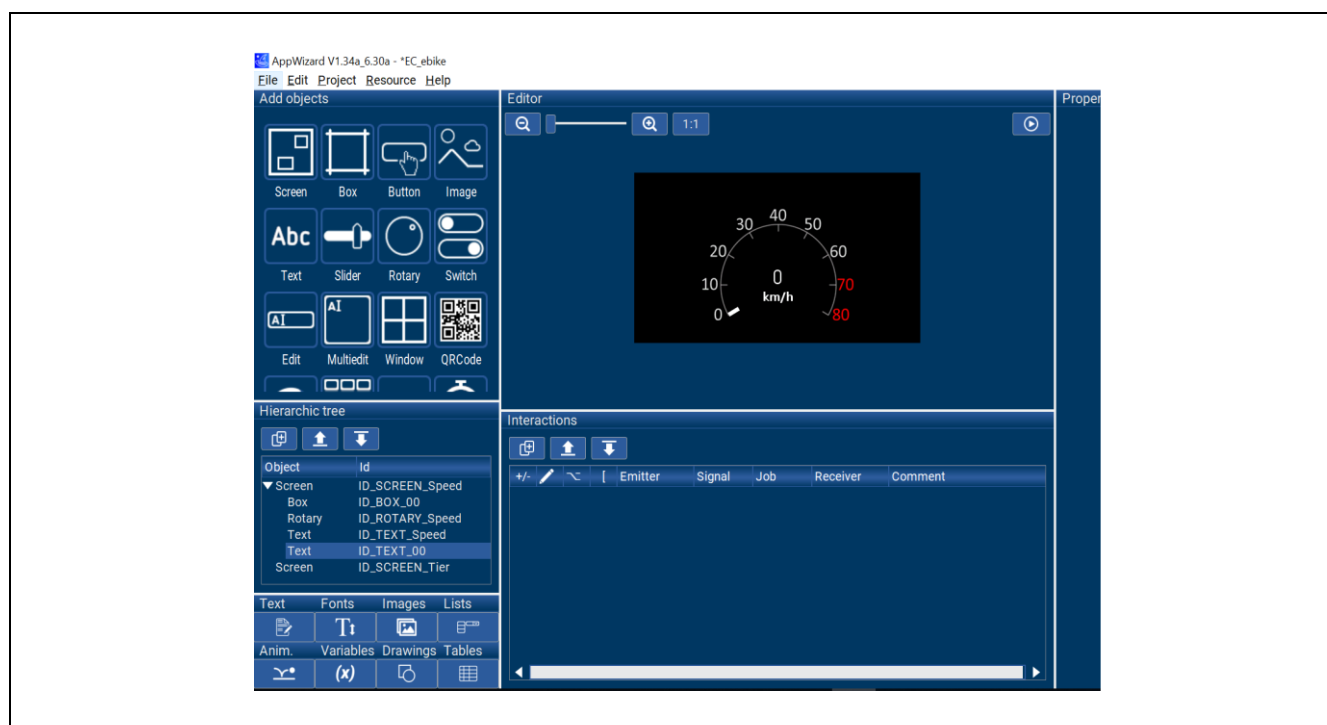

Figure 1-27 Using Text Object to Display Speed Unit
- 5) Use the Text object to display English and Chinese text. Once the configuration is complete, it should appear as shown in Figure 1-27.